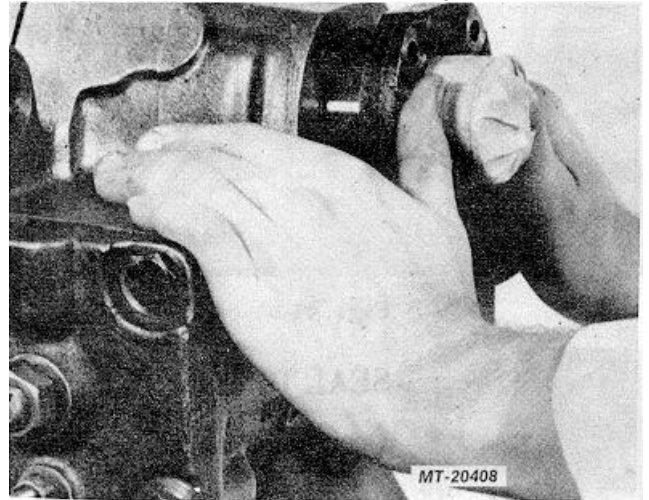

Fig. 42
40. Cover serrations on sector shaft (50) with tape and assemble trunnion cover (26) (Fig. 42).